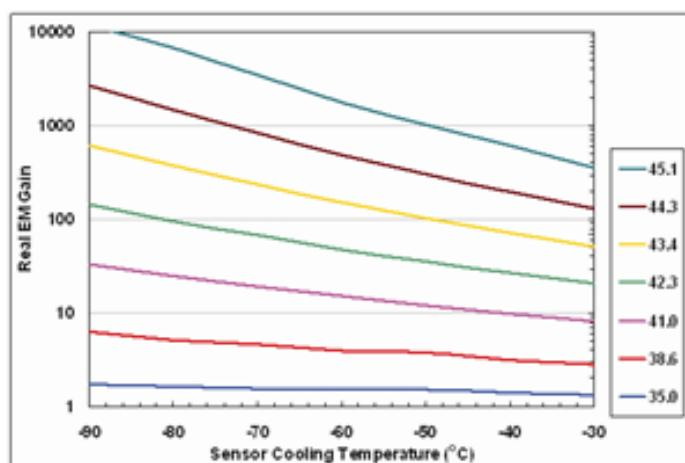
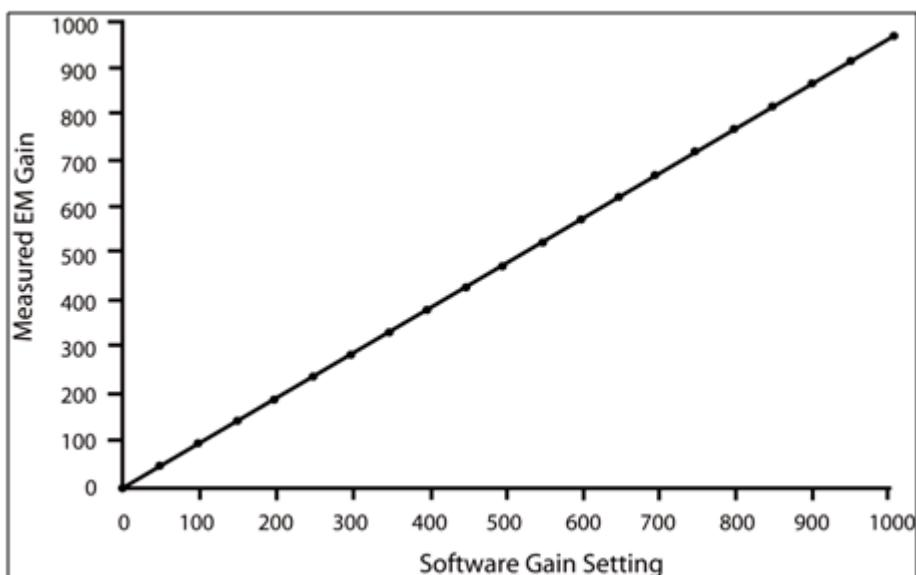

Figure 16:EM Gain vs sensor cooling temperature
Figure 17: RealGain™ calibration in the iXon Ultra – the same linear relationship holds across all cooling temperatures
The effect of sensor temperature on EM Gain is shown in **Figure 16**. This dependence arises primarily from photon scattering of electrons when they are accelerating in the EM electric field. The scattering causes a loss of energy, which increases with temperature. To make up this loss and maintain EM Gain, a larger EM electric field must be used at higher temperatures. As can be seen from **Figure 16**, EM Gains well in excess of x1000 can be achieved at low temperatures. However, it is not recommended to use gains above x1000 because such high gains can cause significant ageing of the gain register (see EM Gain Ageing in **Section 4.1.7**).
- Do not use EM Gains greater than necessary to overcome the read noise (please refer to **Figure 16** and **Figure 17**). A gain of x4 or x5 of the root-mean-square read noise (accessible from the performance sheet) is normally more than sufficient to render this noise source negligible. In practice, this can always be achieved with EM Gain of less than x500 (much less for the slower readout speeds). Pushing gain beyond this value would give little or no extra S/N benefit and would only reduce dynamic range.